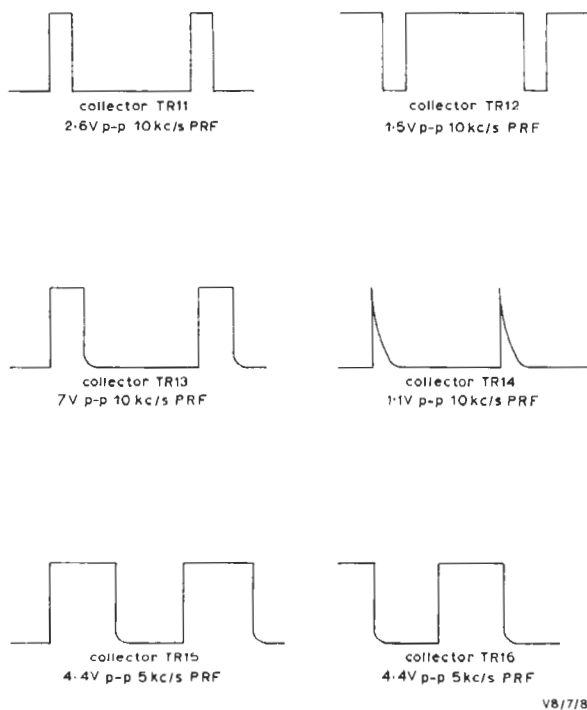

Fig. 7.3. GE1/501 and GE1/508A: Waveforms at Collectors of TR11 to TR16
Waveforms at various points in the circuit are shown in Figs. 7.3 and 7.4.
Negative-going mixed blanking pulses cause a heavy flow of current in TR13, but the voltage swing at the collector is limited by ZD5. This zener diode stabilises at 5 volts, and thus the collector excursion is 7 volts, as can be seen in Fig. 7.3. The inverted signal at TR13 collector is differentiated in the C25, R47 combination, the derived negative-going pulses being amplified and inverted in TR14 to obtain positive-going pulses for triggering the divider.
3. With the 10x probe and the oscilloscope, check that the waveforms correspond with those shown in Fig. 7.3.
2. Using the 10x probe, check that waveform at the TR13 collector is as in Fig. 7.3.
2. Using the 10x probe, check that the waveforms at the TR15 and TR16 collectors are as in Fig. 7.3.